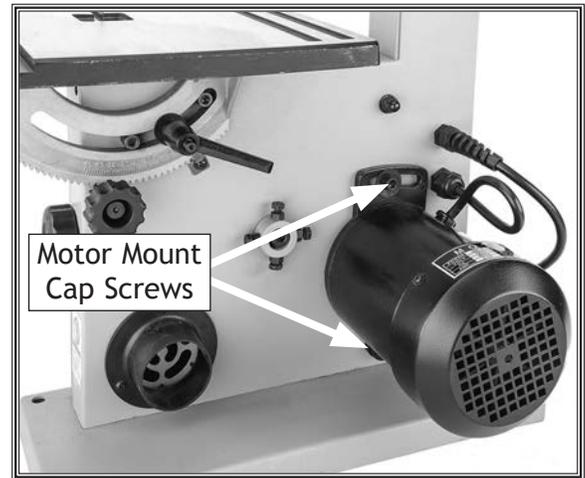

Figure 45. Location of motor mount cap screws used for adjusting belt tension.
2. Loosen motor mount cap screws shown in **Figure 45**.
3. Loosen motor mount cap screws (see **Figure 45** on **Page 42**).